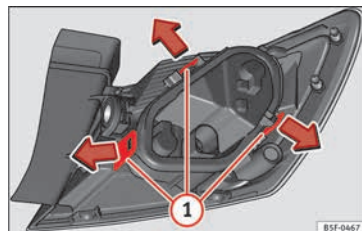

Fig. 117 Retaining tabs on reverse side of tail light.
- Remove the bulb holder » **Fig. 117** unlocking the retaining tabs ①.